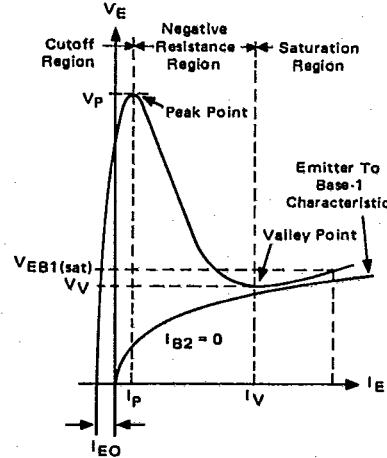

FIGURE 3 – V_{OB1} TEST CIRCUIT
| Base-One Peak Pulse Voltage (Note 3, Figure 3) | V_{OB1} | 3 6 | 5 7 | — | Volts |
3. Base-One Peak Pulse Voltage is measured in circuit of Figure 3. This specification is used to ensure minimum pulse amplitude for applications in SCR firing circuits and other types of pulse circuits.